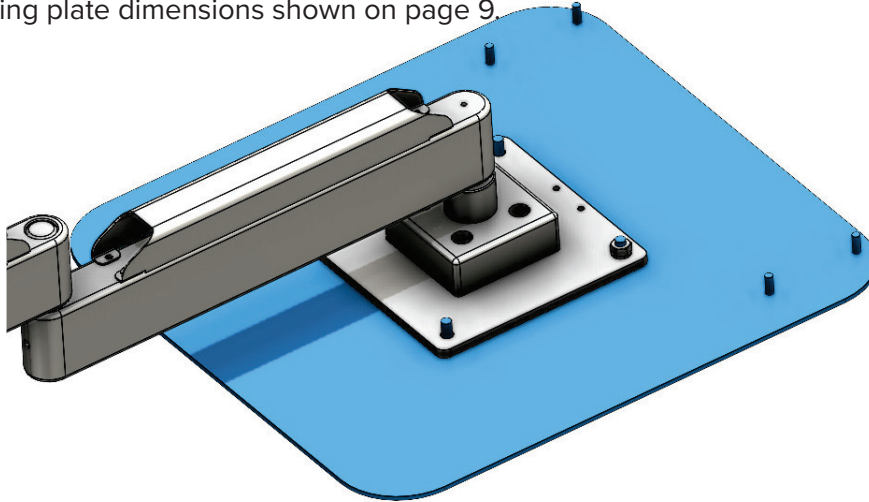

Figure 3. 103-335, step 1 (shown in blue) Sold Separately
1. Align 103-335 mounting plate center studs with the 106-408 arm system plate. (figure3) 103-335 mounting plate dimensions shown on page 9.